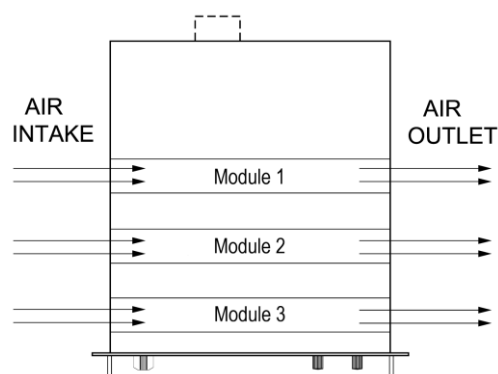

Figure 6.4: The fans are located at the left side and blow through the unit.
- Three low noise fans cool the unit. The speed of the fans depends on the temperature of the internal heatsinks, see Figure 6.4. Normally, at 50 °C ambient temperature and full load the fans are designed such that they will not turn at full speed.